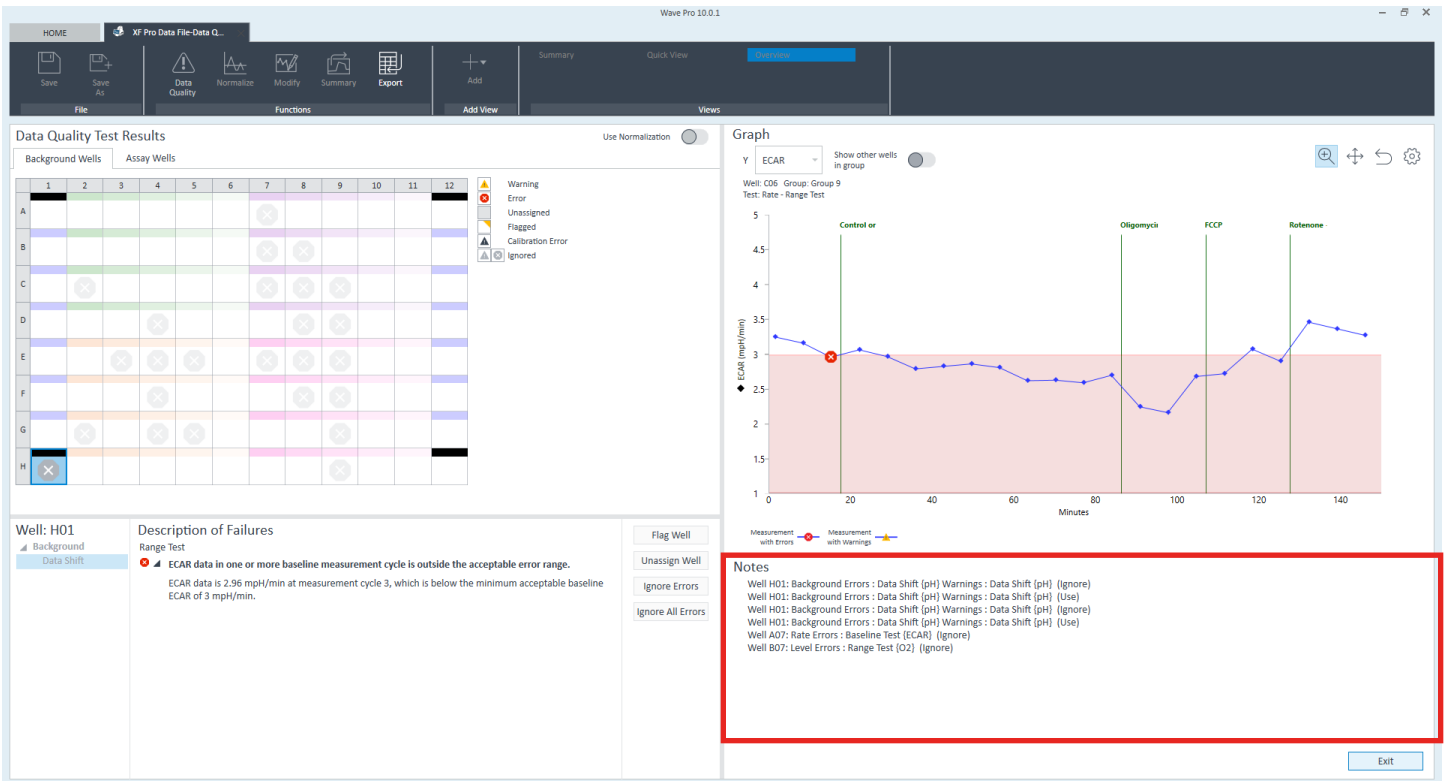

Figure 10. Notes area.
9. Each action performed in the Data Quality analysis view is logged in the Notes area. You can enter your own custom notes into the Notes field, and you can edit the automatically logged notes and any custom notes, if they exist in the file (Figure 10).